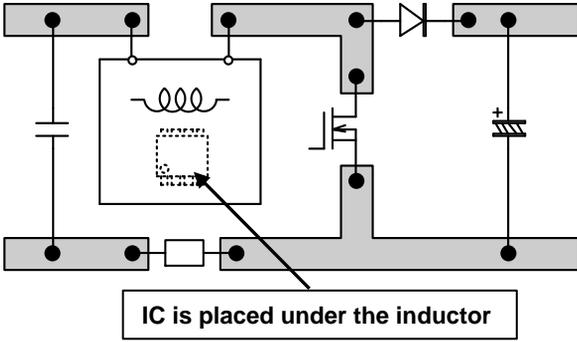

Fig.38 Bad layout example (1)
- IC is placed under the main circuit components such as inductor or just on the back side of the main circuit components. (Fig. 38)